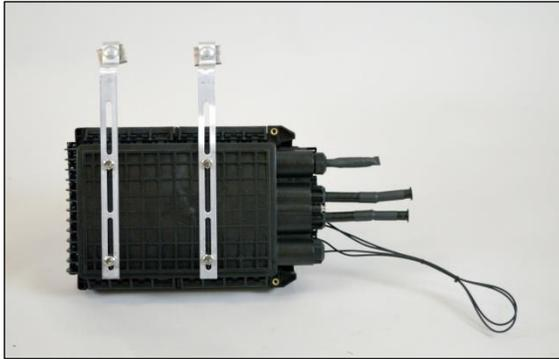

Figure 8 FSDC with Strand Mounting Brackets
9. Attach the tap brackets using the included mounting bolts on the back of the FSDC (Figure 8).